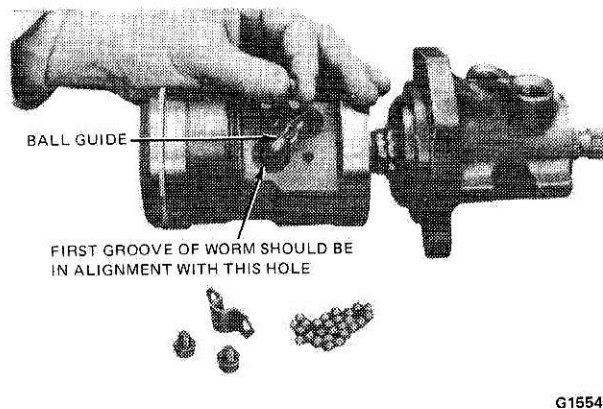

FIG. 6 Assembling Piston on Worm Shaft
6. Place the piston on the bench with the ball guide holes up. Insert the worm shaft into the piston so the first groove is in line with the hole nearest the center of the piston (Fig. 6).
7. Place the ball guide in the piston. Turning the worm clockwise, as viewed from the input end of the shaft, place 27 to 29 balls, depending on the piston design, in the ball guide (Fig. 6). If all the balls have not been inserted upon reaching the right stop, rotate the input shaft in one direction then the other while inserting the remaining balls. Once the balls are inserted, do not rotate the input shaft or piston more than three and one-half turns off the right stop, or the balls will fall out of the circuit.
8. Secure the guides in the ball nut with the clamp (Fig. 6).